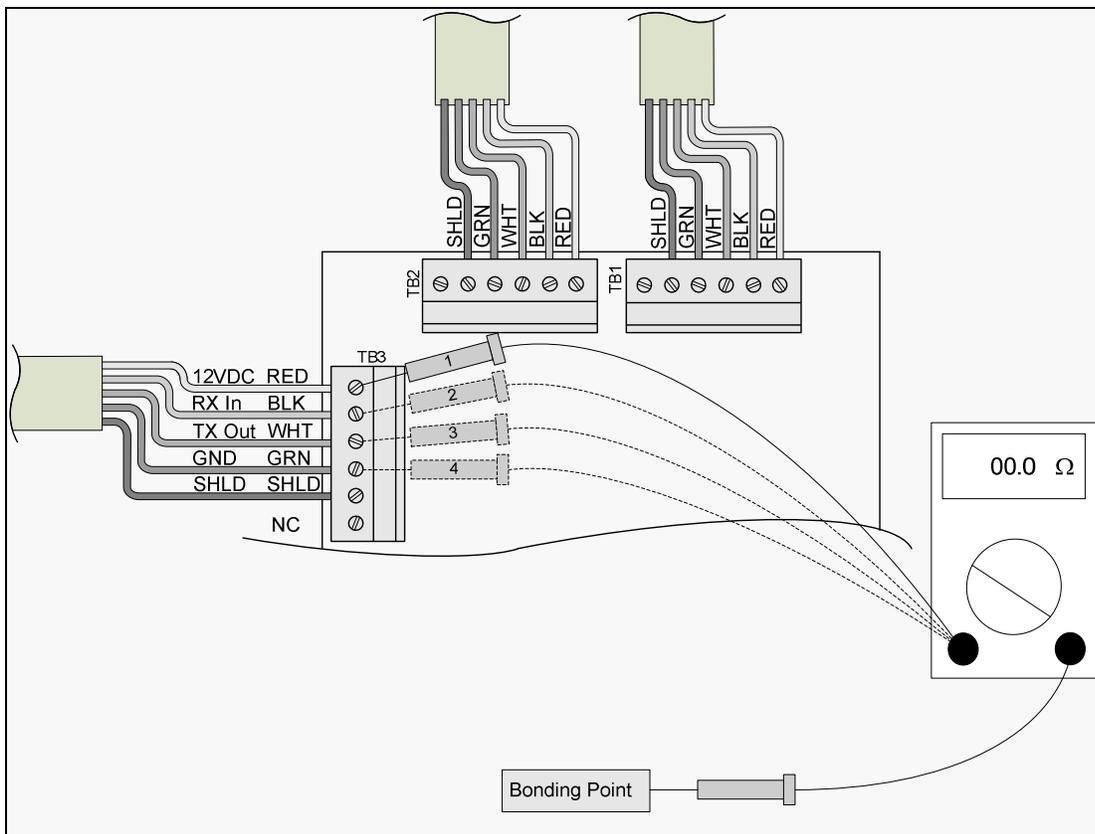

Figure 27 Ground Fault Testing
For this test, set your meter to the highest scale for impedance. This insures detection of both high and low impedance faults. All power supplies must be turned off or unplugged during this test. Use **Figure 27** below as a guide to the four (4) measurements comprising this test. Consult the Sentinel Systems documentation for the specific cable connections for your equipment. In all cases, the tests consist of ensuring there is no connection between the bonding/grounding network and the two signal connections and two power connections.